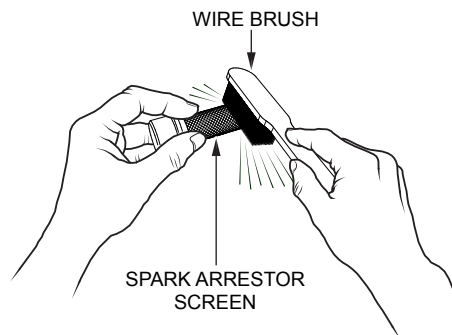

Figure 35. Cleaning The Spark Arrester
2. Remove the 5 mm screw (4) from the muffler protector, then remove the muffler protector.
3. Carefully remove carbon deposits from the spark arrester screen (Figure 35) with a wire brush